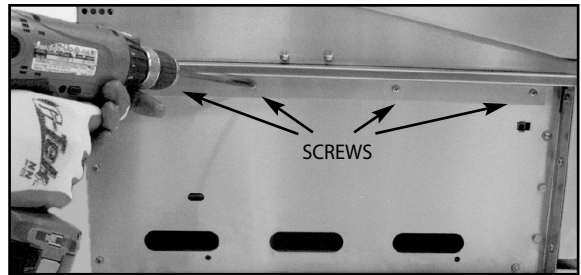

Fig. 06
1. First you will need to remove the angle brackets from the side of the unit and replace them with cart mount brackets (Fig. 06). Unit is shipped prepared for island installation.